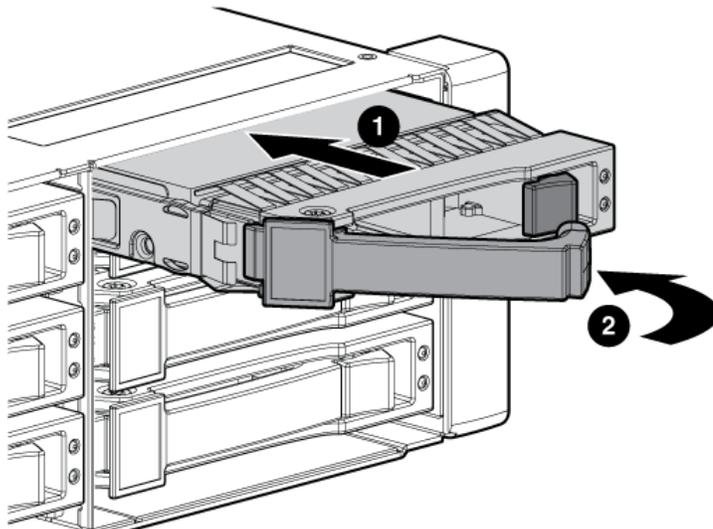

Figure 13 Installing drives into the enclosures
1. Insert the disk drive into the drive bay (1, Figure 13) until it clicks, locking the drive.
2. Rotate the drive lever to the right (2, Figure 13) until it locks.